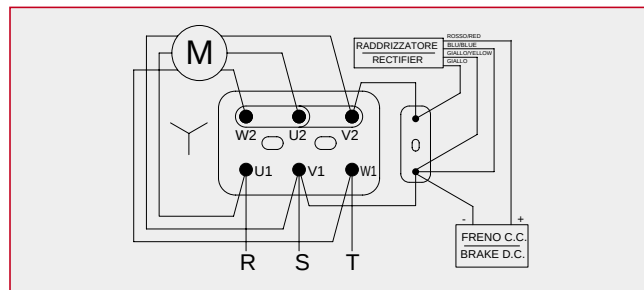

Fig. 14
Collegamento stella (Y): (fig. 14)
Delta connection (Y): (fig. 14)